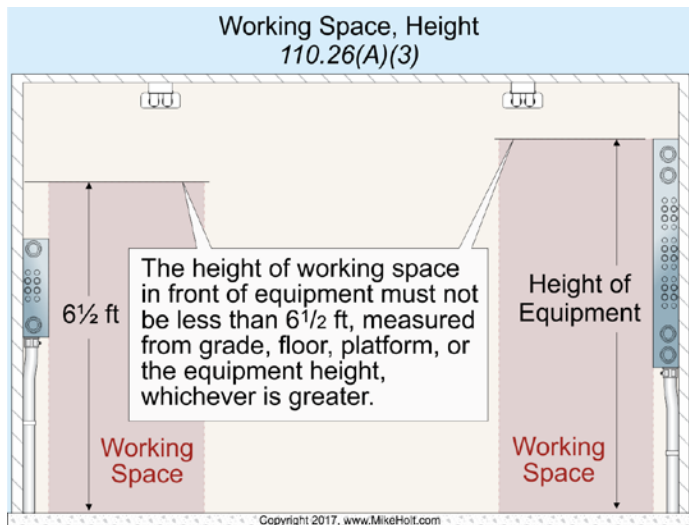

Figure 110-35
(3) Height of Working Space (Headroom). The height of the working space in front of equipment isn't permitted to be less than 6½ ft, measured from the grade, floor, platform, or the equipment height, whichever is greater. Figure 110-35